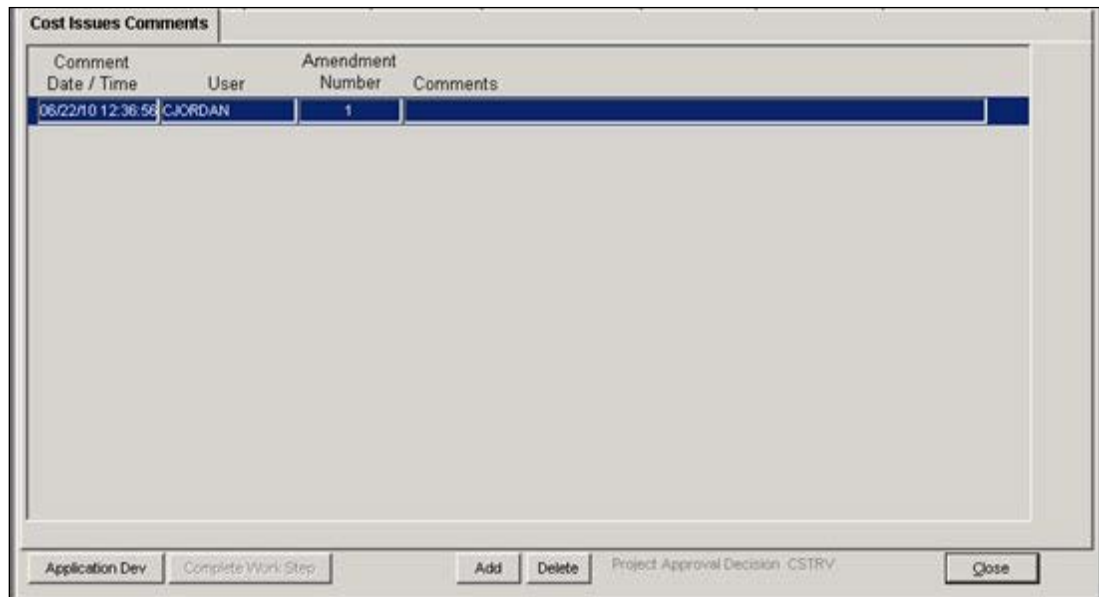

Figure 7-109: Mitigation > Projects > Eligibility Determination > Cost Issues Comments Tab
- a. Click the **Cost Issues Comments** tab (Figure 7-109).